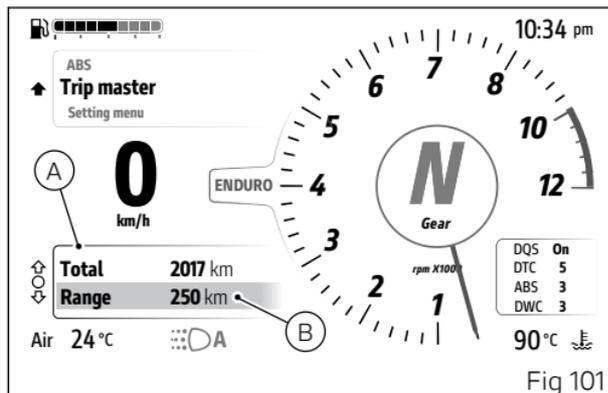

Fig 101
The Info display menu contains all available meters with travel information (A, Fig 101).
The information is displayed on 2 lines, the selected item is the one highlighted in the second line (B, Fig 101). Once you have selected the Info display menu, scroll through the list of information using the buttons (1) and (2).